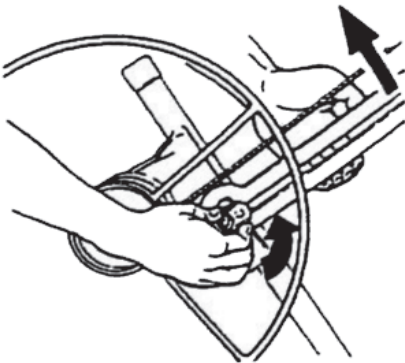

Fig. 24
- Hold the retaining hook in this position with your left hand, and rotate the winch forward with your right hand. (Fig 24)